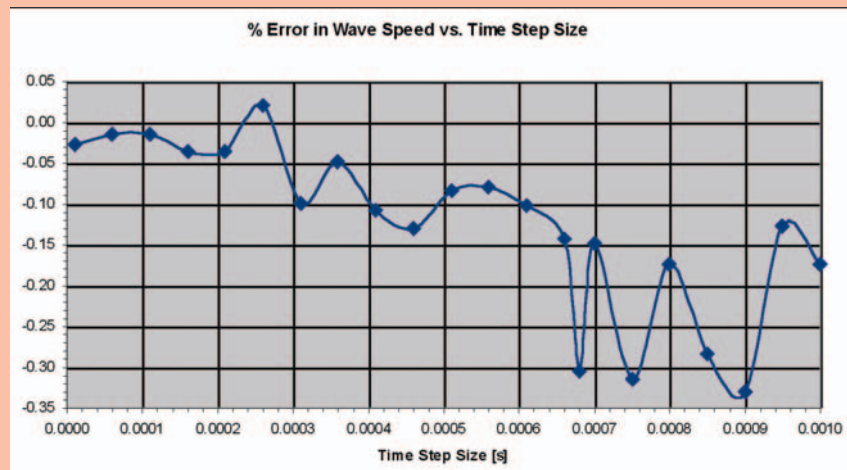

Figure 2 – Error as a Function of Time Step.
- f) *Figure 2* also shows the following important point: Not only should we undertake sensitivity studies on the influence of mesh size on the accuracy of results, but we should also be checking that the temporal 'discretisation' is sufficient for required accuracy.